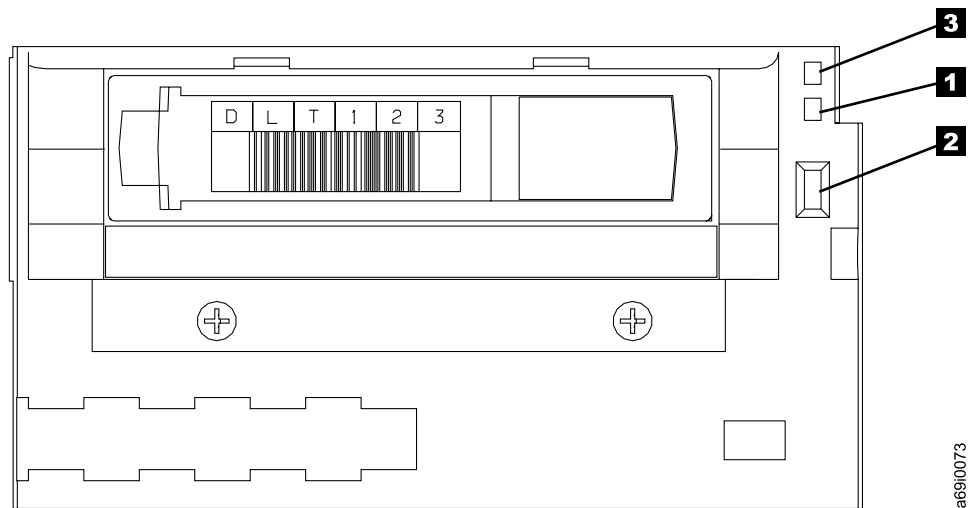

Figure 31. Removing a Cartridge from a DLT Tape System
- If the green Operate Handle light (see **1** in Figure 31) is on, the drive is ready to be unloaded. Place your hand in front of the load compartment and press the unload button **2**. Keep your hand in place for 3 to 5 seconds and let the cartridge eject slowly so that the tape disengages properly from the threading mechanism. Remove the cartridge from the drive.